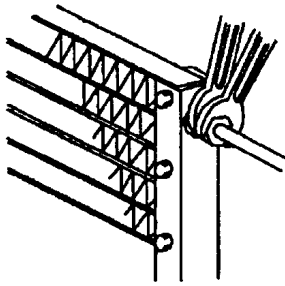

Figure 36 Use a Back-Up Wrench When Loosening or Tightening Fittings
4. Tighten fittings as specified in the torque chart of the Air Conditioning - Heating Service Section for the particular vehicle. Use only a torque wrench known to be accurate. Always use a back-up wrench when loosening or tightening fittings (Figure 36).